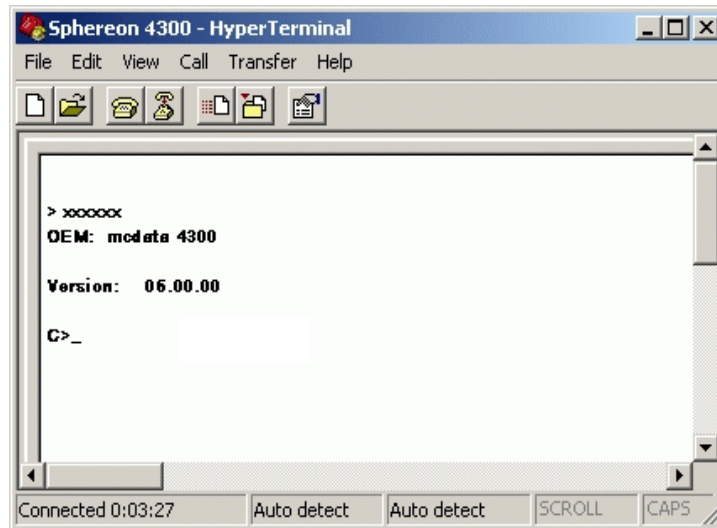

Figure 3-10 Sphereon 4300 - HyperTerminal Dialog Box
- j. At the **C>** prompt, type **ipconfig** and press **Enter**. The *Sphereon 4300 - HyperTerminal* dialog box displays with configuration information listed, including the IP address (Figure 3-10).